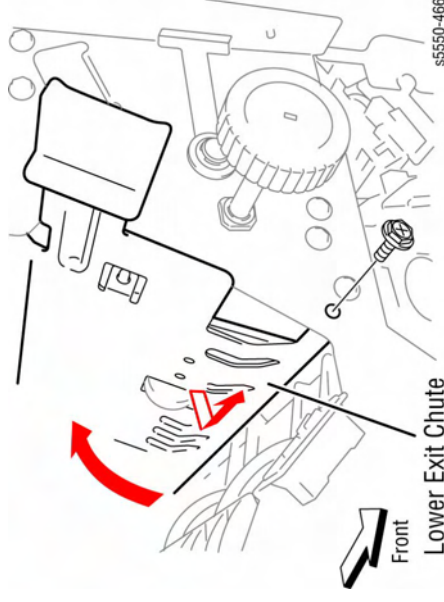

Figure 1 Removing the screw on the front
5. Remove the Lower Exit Chute Open from the front (Arrow 2) as in Figure 1.